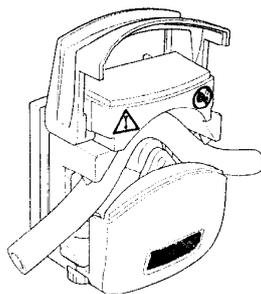

Fig 2B
5. Place the tube over the roller, as shown in fig 2B, and centre it on the roller so that it comes out over the V-shaped tube holder on each side of the pump.